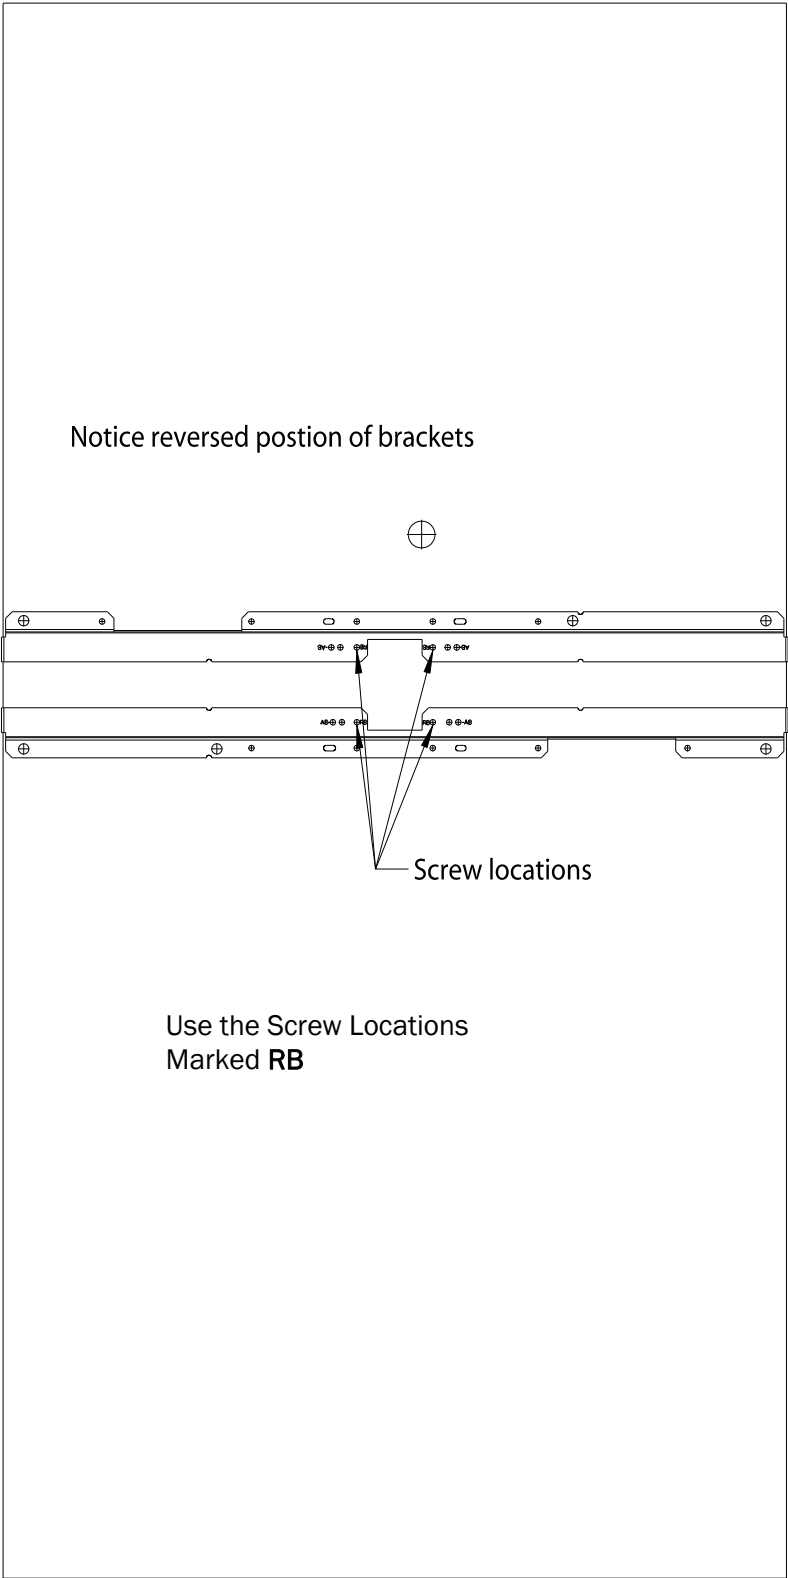

Figure 2-20: RA Below Ceiling Tile Mounting Rail Screw Locations
4. Mark the location of the "RB" screw holes in the mounting rails on the ceiling tile where the holes will be drilled through the tile as shown in Figure 2-20. Drill four 0.25-inch (6 mm) diameter holes in the ceiling tile.
8. Insert the four (4) M3-.5 x 30 lobe screws into the RA mounting rail holes, through the ceiling tile, through the provided plastic spacers, and into the mating holes in the back of the wall plate.